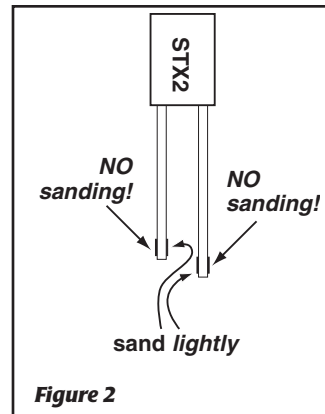

Figure 2
3. Lightly rub the voltage electrode (silver pellet on the inner surface near the electrode tips) of the **STX2** with the 600-grade ultra-fine sandpaper provided (Fig. 2). Only a very thin surface layer of the pellet should be removed. Repeated sanding will eventually remove the Ag/AgCl pellets. When rubbing no longer improves the voltage readings, the electrode should be replaced. In the absence of 600-grade sandpaper, an ink eraser may be substituted to clean the electrodes.